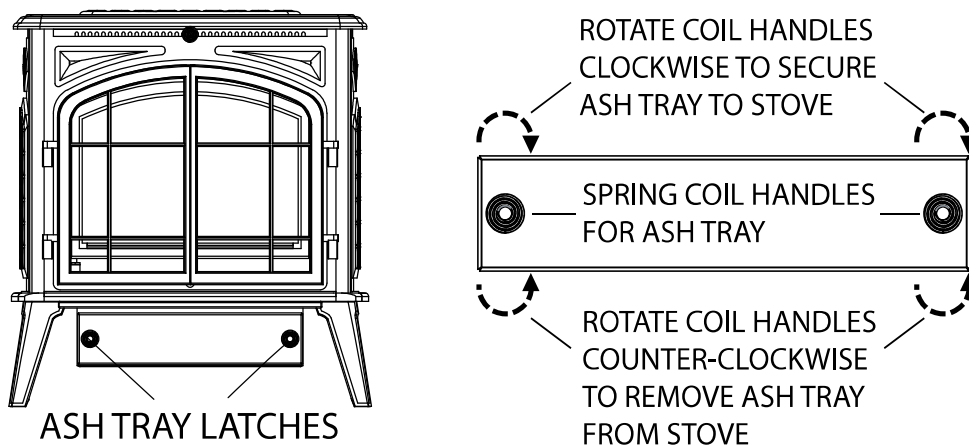

Figure 26. Ash tray for **KOZI** Previa Cast Iron pellet stove.
- f. To remove ashes in the burn chamber area you will need to remove the ash tray. Turn the 2 coil handles, located on the ash tray as shown in Figure 26, counter-clockwise to release the latch mechanism. Pull the ash tray out and place all of the ashes into a metal container with a tight fitting lid. Replacement of ash tray is reverse of removal. An alternate method to cleaning the ashes in the burn chamber area is to purchase a pellet vacuum. These vacuums are specifically designed for the removal of ashes in a pellet stove. Please visit the website www.lovelessash.com to find the closest dealer near you.